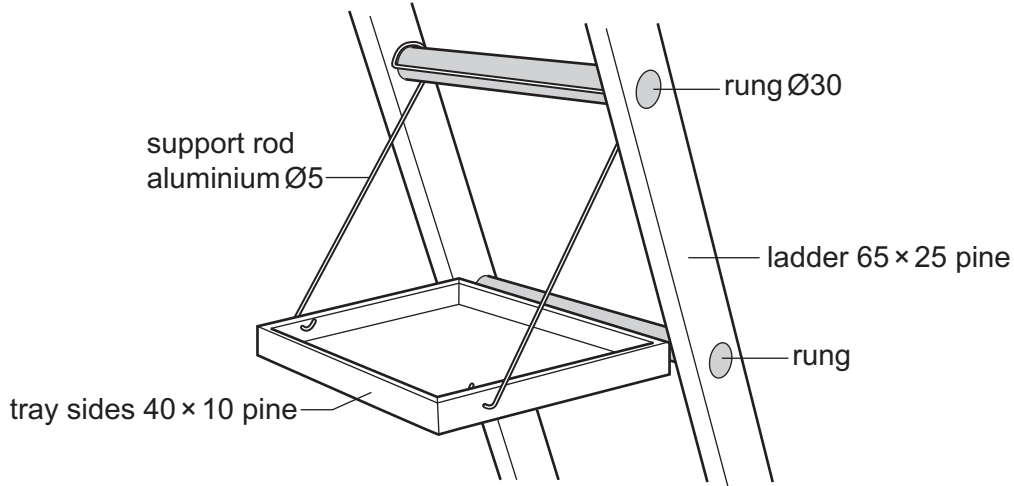

Fig. 11.1
- 11 Fig. 11.1 shows an incomplete design for a paint holder that will be used when painting from a ladder.